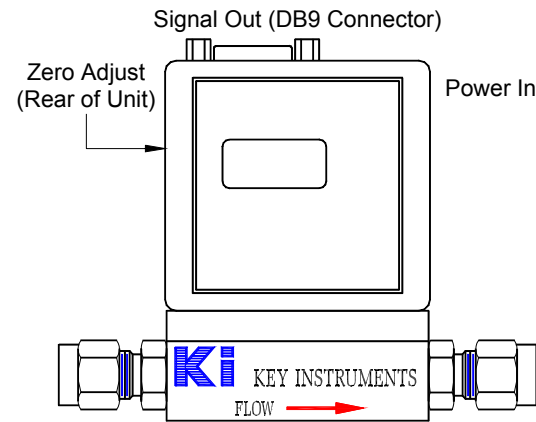
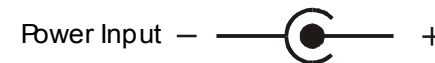

Figure 1: PV Meter
Figure 2: Power Circuit
- Any adapter providing a minimum DC output of 12 volts (max 24 volts) will power this flowmeter through the power jack (See Figure 1) on the side of the case following the polarity convention shown in Figure 2. The electronic circuit is protected against reverse polarity up to a supply voltage of 15 volts.
- The zero adjusting screw is located on the rear of the case as shown in Figure 1. Small adjustments can be made by turning the potentiometer for zero alignment. The span adjustment is factory preset and located inside the meter body. Tampering with the span settings will void the warranty.